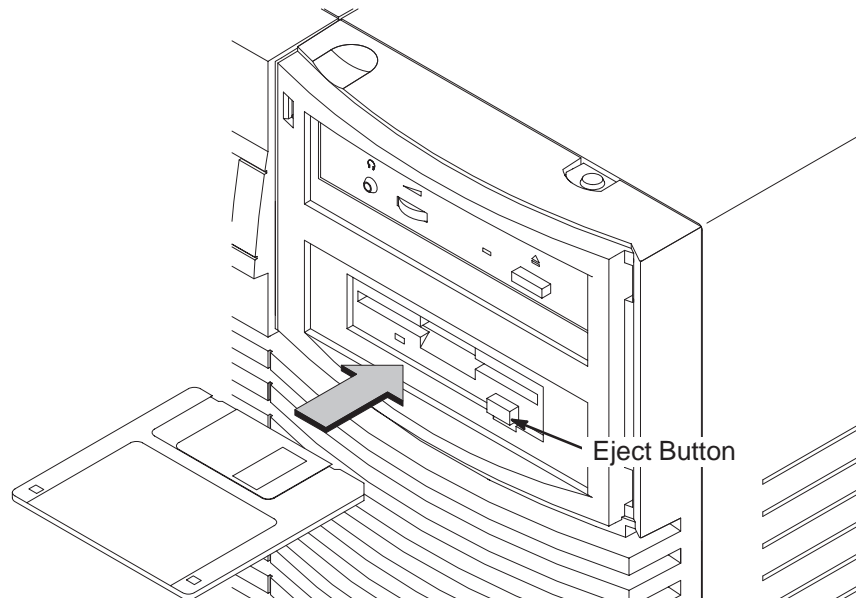

Figure 4-2. Inserting and Removing a Floppy Diskette
1. Insert the diskette into the drive, as shown in Figure 4-2.
3. To remove the diskette, push the eject button (see Figure 4-2), then take out the diskette.